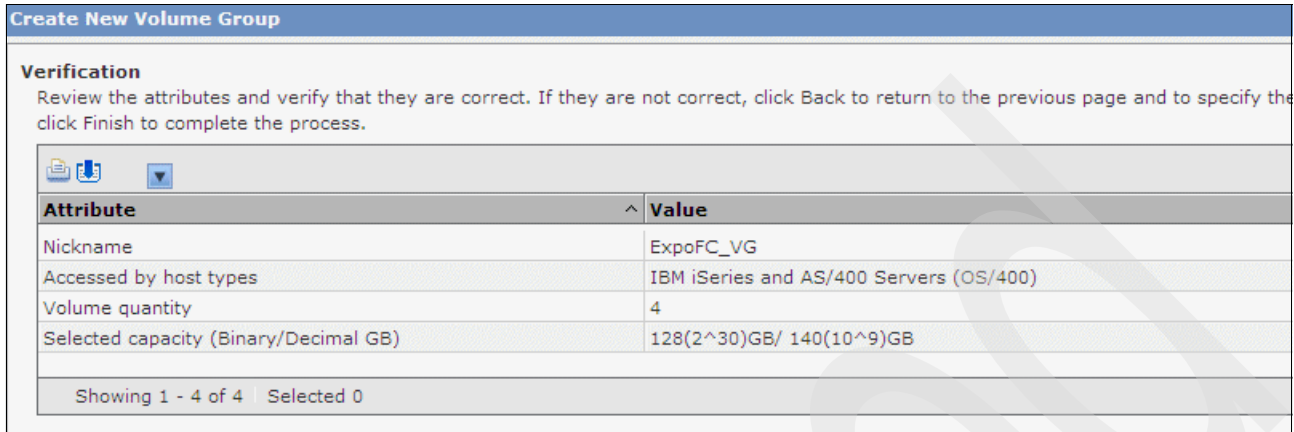
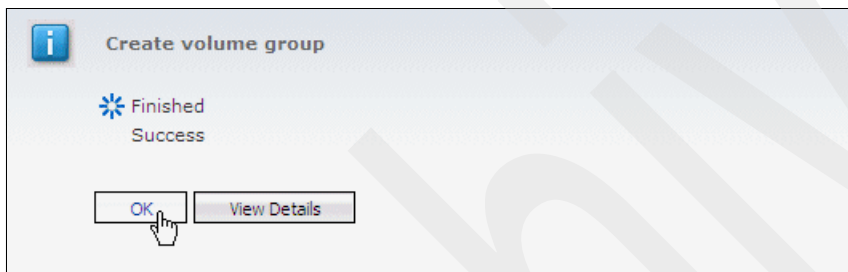

Figure 10-19 Volume group creation verification
Figure 10-20 Volume group creation finished
3. In the Verification panel, verify that the details are correct, and then click **Finish**. The volume group is now ready to be used for the FlashCopy (see Figure 10-19 and Figure 10-20).